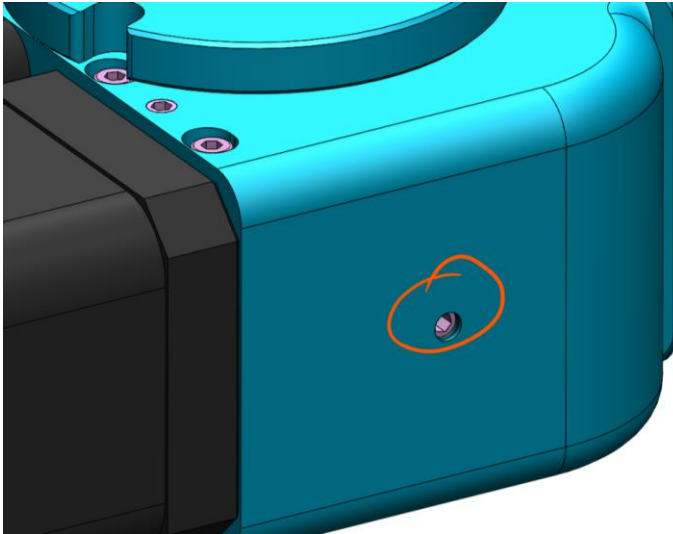

Fig. 5
8. Now slowly screw in the side grub screw DIN 916 - M4x10 (Fig. 5) to increase the preload.